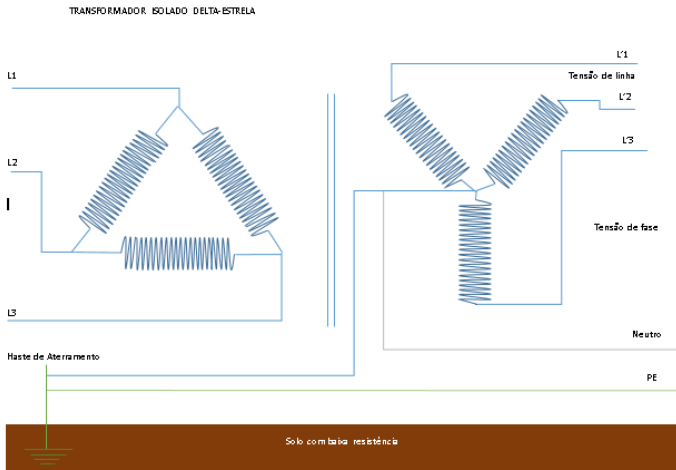

Figure 1: Delta to star(wye) transformers
- Delta and wye are two common configurations used in three-phase transformer connections (Fig 1).